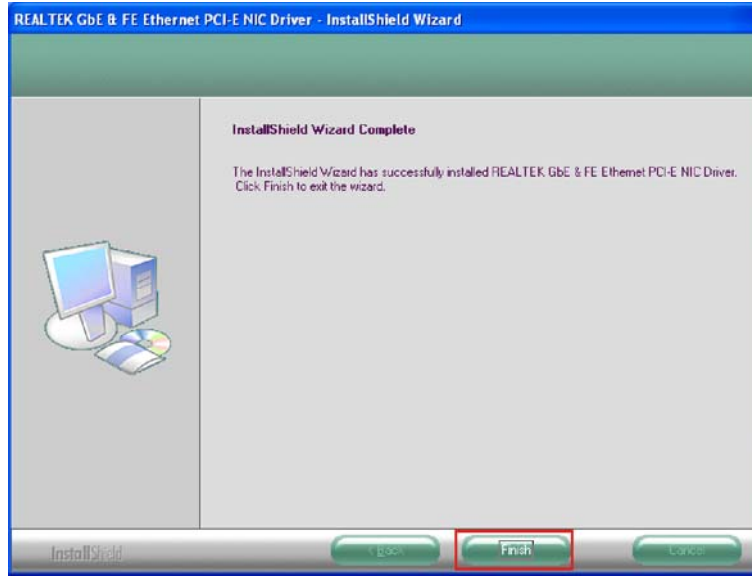

Figure 6-20: LAN Driver Installation Complete
Step 8: When the driver installation is complete, the screen in **Figure 6-20** appears.
Step 9: Click **FINISH** to exit the InstallShield Wizard (Figure 6-20).